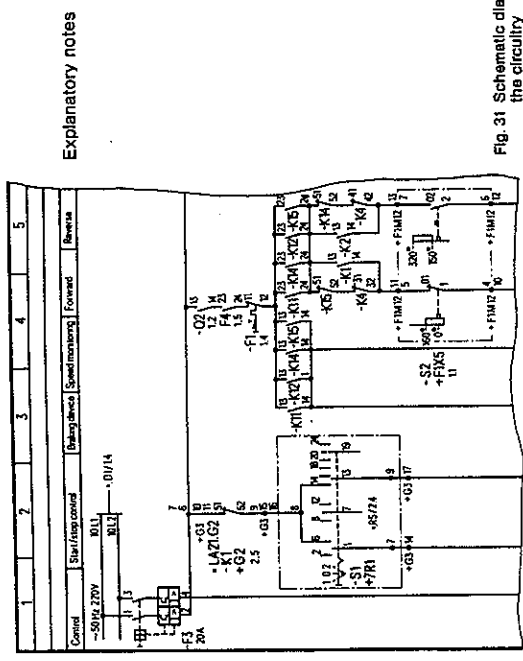

Fig. 31 Schematic diagram with explanatory notes shown above the circuitry
- either by entering them in one or several lines above the circuitry, as shown in Fig. 31,